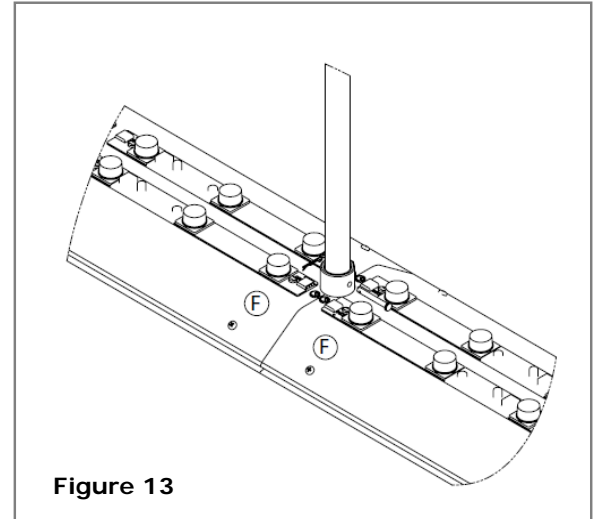

Figure 13
4. Align the holes in the support poles with the holes in the collars. **See Figure 13.**
5. Place a clevis pin through the collar and support pole, and use a cotter pin to secure. Repeat this step for the other end of the support pole. **See Figure 13.**